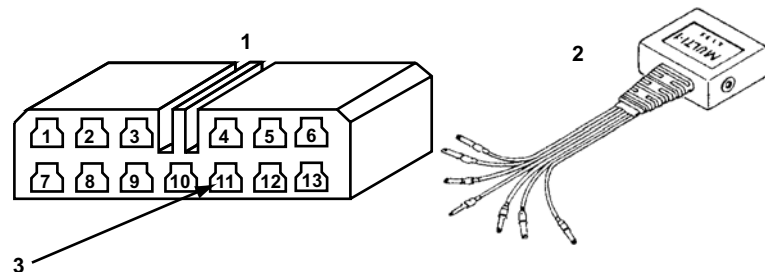

Figure 15-25 13-pin Check connector
- b. If your Check connector is located under the dash or inside the trunk, connect the blue wire of the MULTI-1 adapter to pin 6 of the Check connector (Figure 15-25).